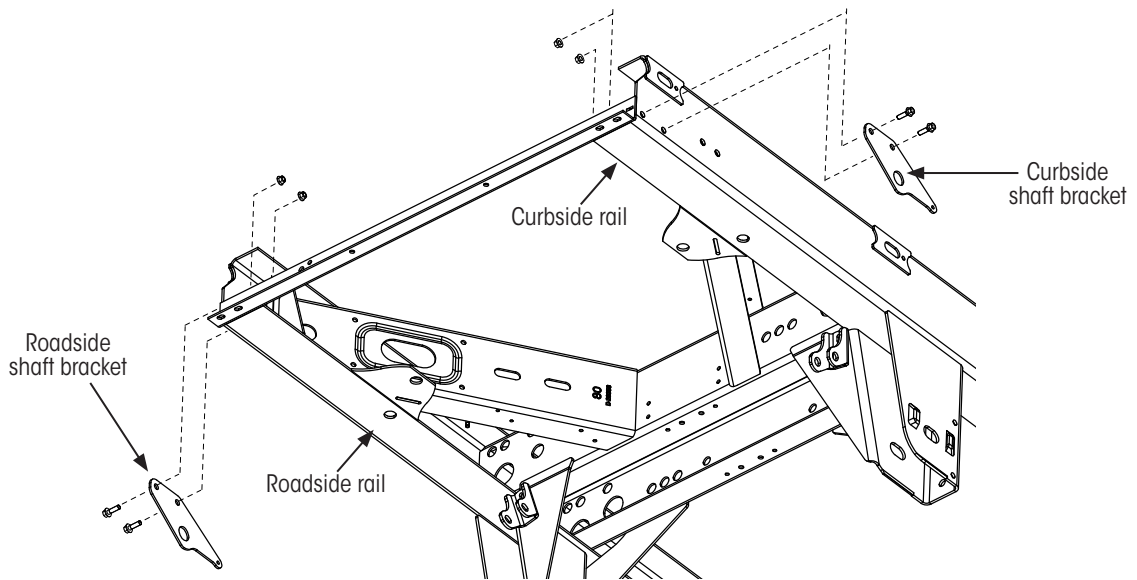

Figure 19: Slider shaft bracket installation
1. **Install** roadside and curbside brackets (Figure 19) using 1/2-inch flange bolts provided with the kit. **Loosely install** bolts to allow brackets to move freely during the next step.